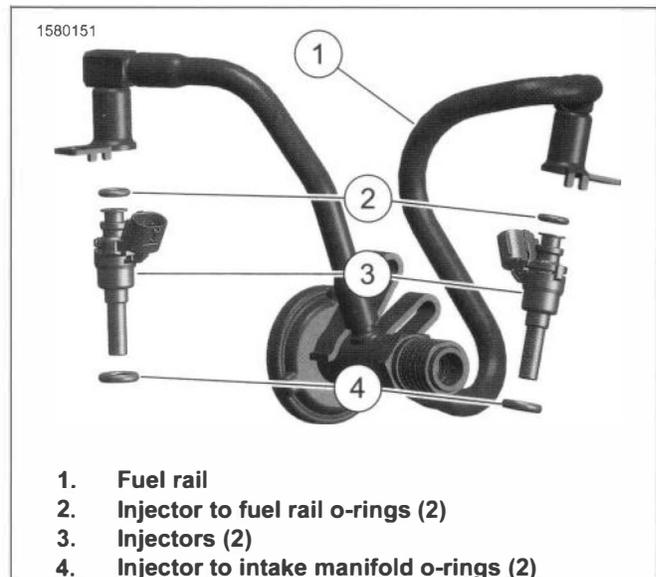

Figure 6-29. Fuel Injectors
- c. Remove fuel rail (2).
- d. Remove fuel injectors (3).
3. See Figure 6-29. Discard o-rings (2, 4).
1. See Figure 6-29. If required, install new o-rings (2, 4).